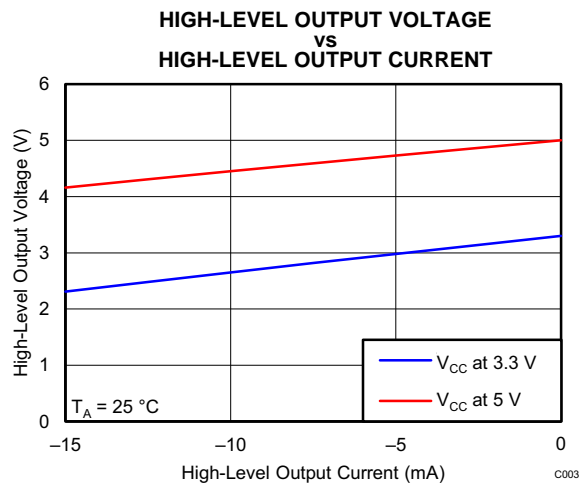

Figure 9.
• Changed <a href="#">Figure 9</a> X axis values .....	<a href="#">13</a>